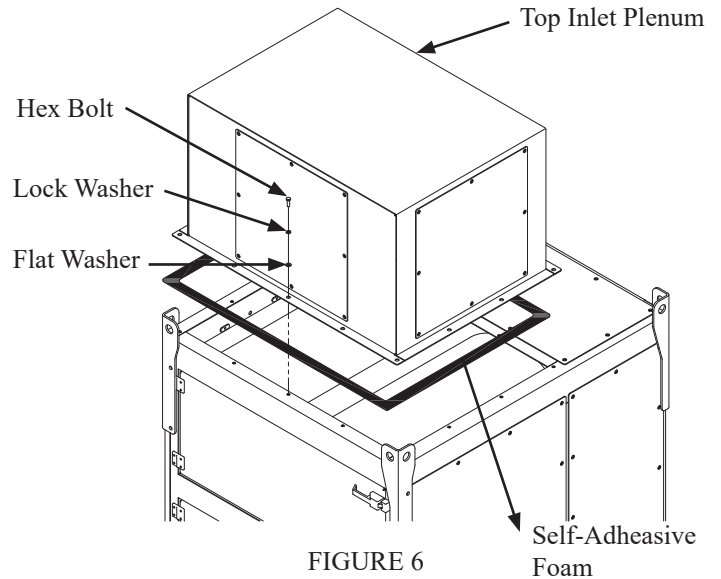

FIGURE 6
7. H4 , H6 and H8 require installation of the top inlet plenum as shown in FIG. 6.